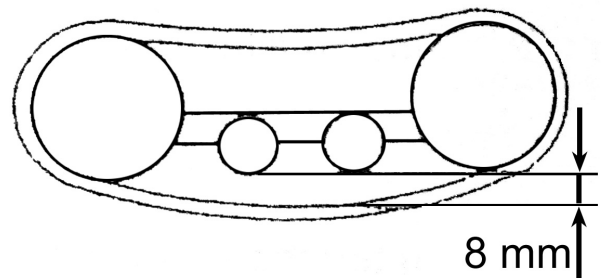

Figure 27
3. Turn the crawler tension bolt to adjust the gap A between the crawler and the turning wheel to 8 mm. (Figure 27)